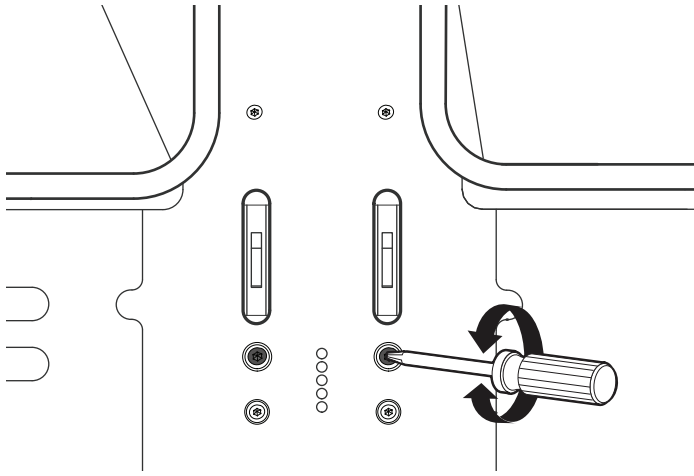

Figure 22: Hinge Receiver Adjustment Screw
- If door or handle appears slightly tilted, you may adjust the hinge receiver by rotating the large Torx-head screw located directly below the hinge receiver with a T-20 Torx driver. Rotate each screw respectively to its side and direction the door needs to be adjusted (Figure 22).